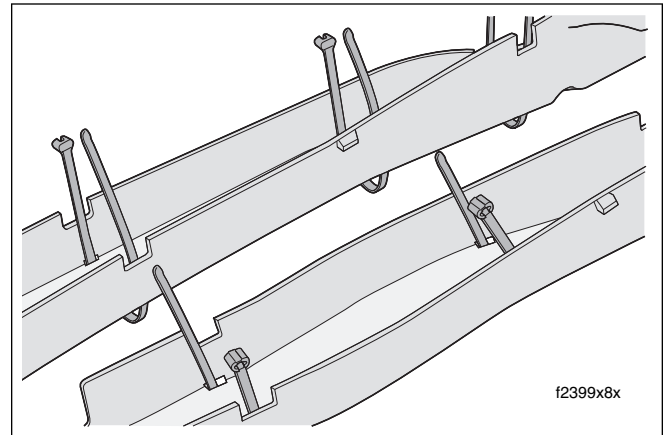

Figure 8-153. Install New Cable Straps in Wire Trough
1. Thread cable straps through slots of **new** wire trough as shown in Figure 8-153. Properly installed, both ends of the cable strap will be pointing upward. Install all cable straps in this fashion.